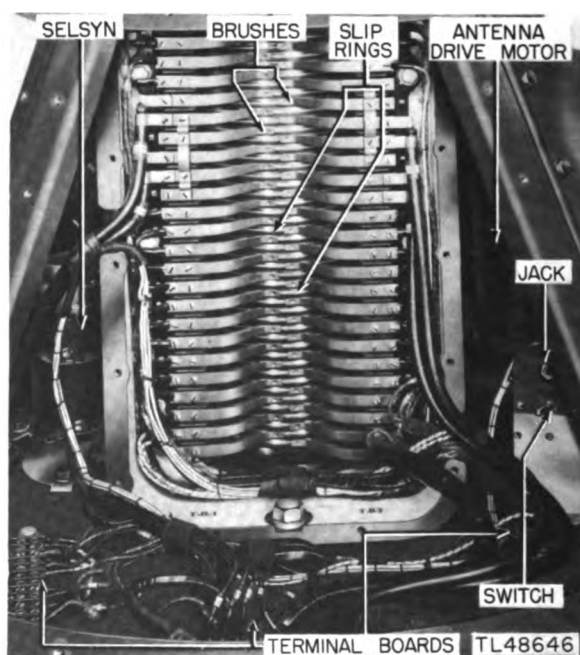

Figure 4-58. Pedestal slip-ring compartment.
(2) Throw the RUN-SAFE switch to the SAFE position.
(3) Remove the cover plate from the slip-ring housing.
b. Maintenance Procedure (figs. 4-58 and 4-59).
(1) The painted surface for deterioration, peeling, cracking, and chipping. Examine the entire pedestal for dirt and corrosion (par. 2-20).
(2) The pedestal for loose mounting. If the pedestal is not level, notify the person in charge.